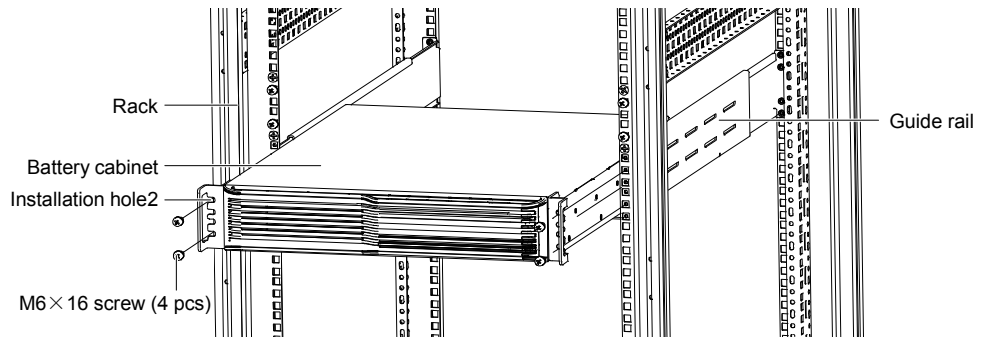

Figure 2-8 Installing battery cabinet
2. Place the battery cabinet onto the guide rail in the rack, and push it completely into the rack along the guide rail (it is prohibited to move the battery cabinet through the brackets). Take out four M6 × 16 screws from the accessories, and fix the battery cabinet onto the rack using the screws through installation hole2 on the bracket, as shown in Figure 2-8.